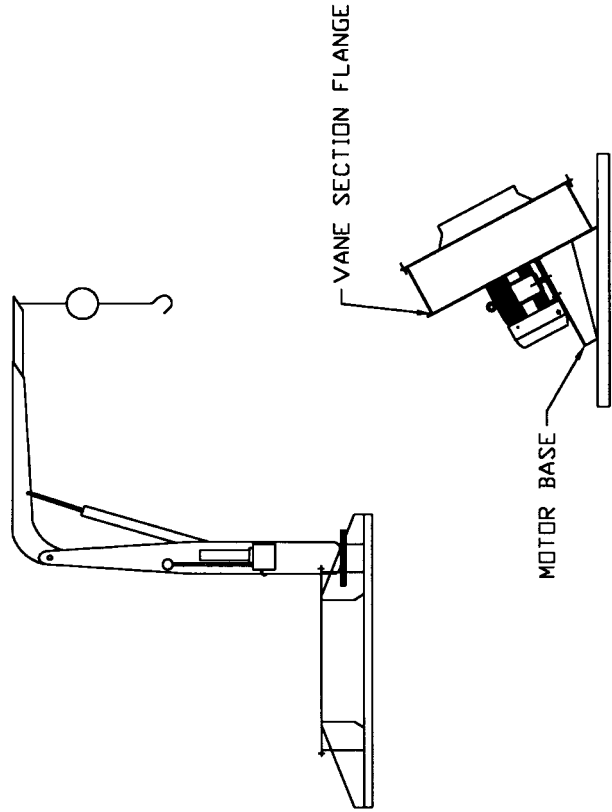

FIGURE 7
- 17) Lower the fan and rest it on the motor base and the vane section top flange. The bottom of the motor should be facing the roof. (Figure 7)